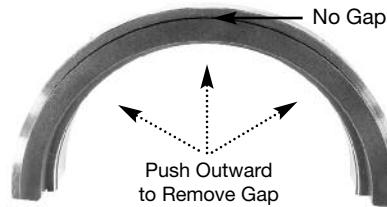
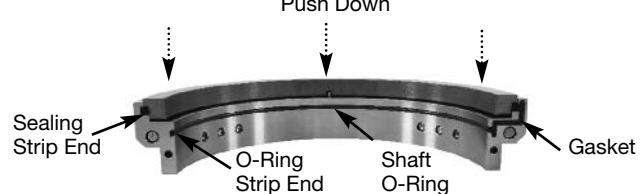

Figure 1
Figure 2
NOTE: Ensure the mating ring halves are properly assembled in the mating ring adapter assembly halves. The mating ring halves should be engaged with the sealing strip as shown in Figure 2. The mating ring halves may be adjusted if necessary by pushing on the mating ring halves as shown in Figures 1 and 2.
2. Lightly lubricate the exposed inside diameter surface of the shaft O-Ring with the provided lubricant on each mating ring adapter assembly half as shown in Figure 2.
3. Lightly lubricate the exposed surfaces of the split joint gasket, sealing strip free ends and O-Ring strip free ends with the provided lubricant on each mating ring adapter assembly half. Figure 2.